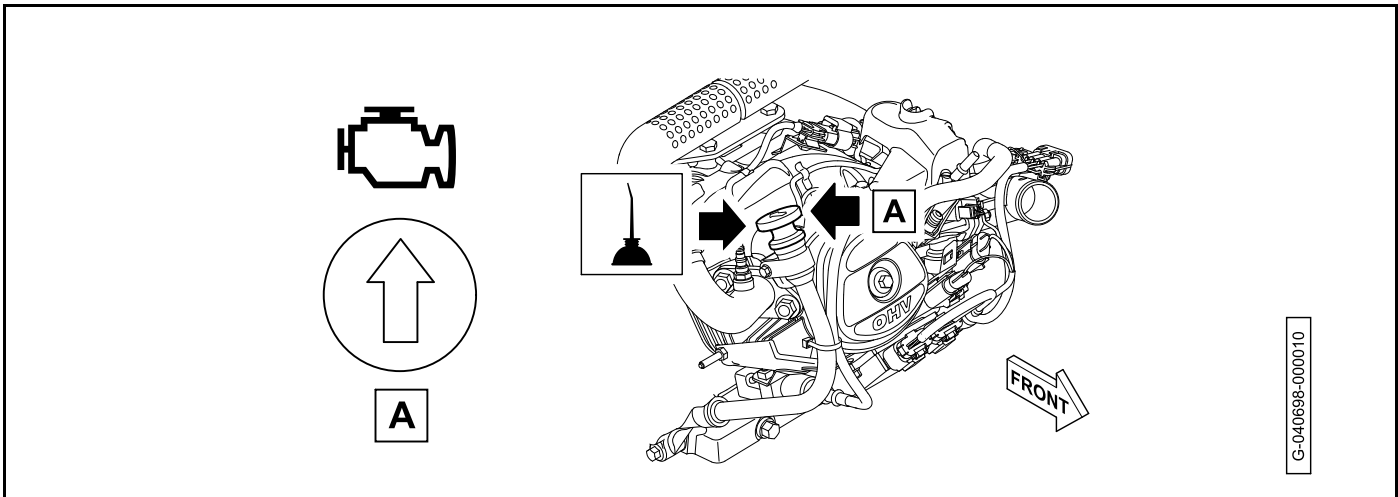

Figure 10-9 Engine Oil Fill Location
9. Add 39 fl-oz (1.1 l) of recommended engine oil (Figure 10-9, Page 10-14).